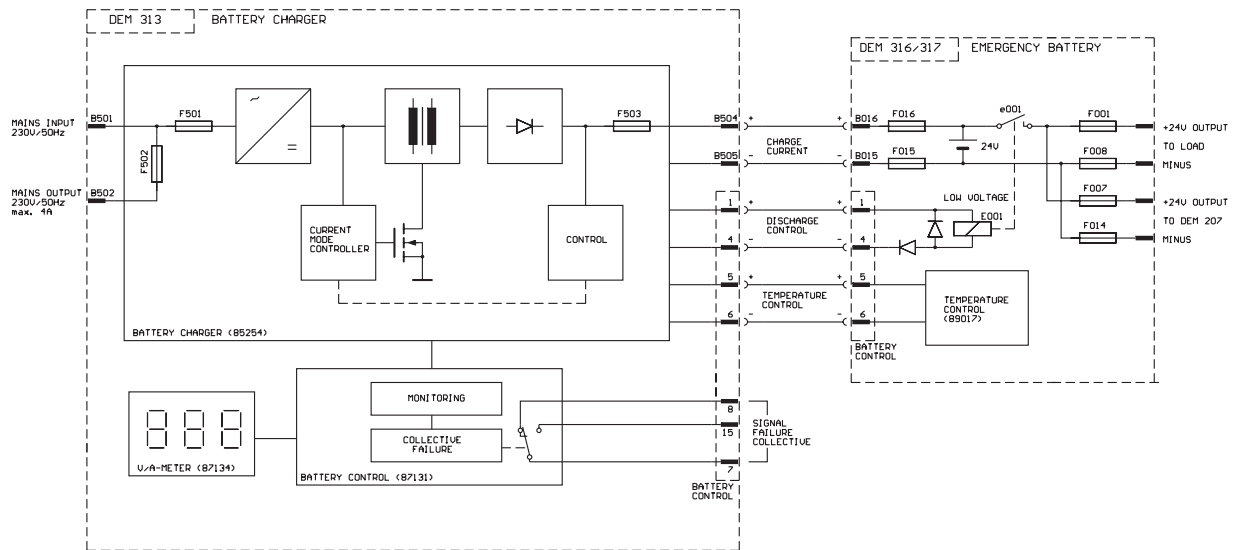
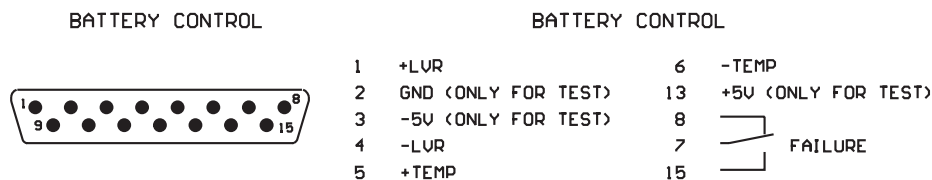

Fig. 1 Connection of the battery to the charging unit
Fig. 2 Connections of the BATTERY CONTROL pin connector
- The D-sub connector socket BATTERY CONTROL (9) of the charging unit is to be connected with the D-sub connector BATTERY CONTROL of the battery module (also see Figure 1 and Section 3.1).
- The CHARGE OUTPUT (8) of the charging unit is to be connected with the charging input CHARGE CURRENT of the battery module. Please observe correct polarity (see Figure 1). The cross-section of the line between the charging unit and the battery module must be at least  $2.5\text{mm}^2$ . Insulated AMP flat-pin sleeves  $6.3 \times 0.8$  mm must be used for the connections. The line length must not exceed 2 m.
- Another device can be connected at the mains connector MAINS OUTPUT (5), if its power consumption does not exceed 4 A. The mains connector MAINS OUTPUT (5) is protected against overloading by a fuse (4) with the rating T4A. A fuse rating above T4A is not admissible.
- If all connections have been made correctly, the unit can be connected with the mains by means of the supplied power cable. The mains cable is connected at the 3-pole mains connector socket (7) on the unit
Various control input/outputs are available at the 15-pole D-sub pin connector BATTERY CONTROL (9): (Also see Figure 2):
For temperature tracking of the charging voltage in standby mode, the temperature sensor (retrofitting kit NRS 90200) must be installed according to the retrofitting instructions and is to be connected with the charging unit (see also Figures 1, 2 and Sections 3.1, 6.9).
In order to prevent exhaustive discharging of the battery, suitable relays must be used which are to be connected with the charging unit according to Figure 1 or Figure 2. The total coil resistance of the relays may not be below 70 ohms.
The collective failure signal is designed as a floating contact, making available malfunctions of the battery such as: disconnection at LOW VOLTAGE, wrong polarity or battery short-circuit, as well as malfunctions of the charging unit such as: absence of LINE VOLTAGE, OVERVOLTAGE or failures in the charging circuit CHARGE CURRENT for long-range transmission. The corresponding failure is indicated on the unit itself via the corresponding LED (3) lighting up or going off respectively, (see page 2 as well as Section 6.1 to 6.6). The floating contact of the collective failure indication is wired at the D-sub pin connector BATTERY CONTROL (9) (see Figure 2).